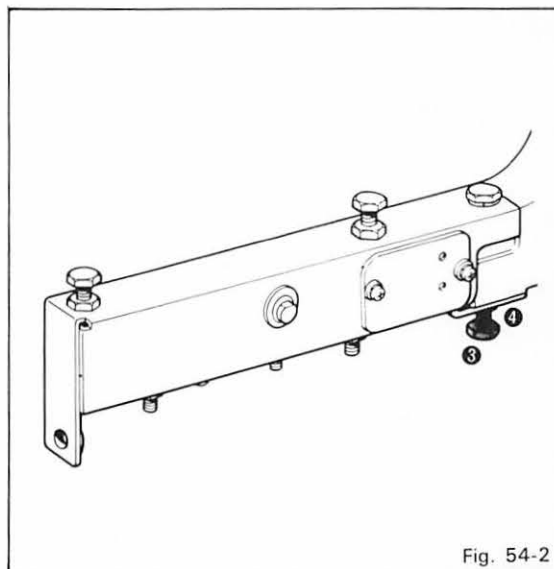

Fig. 54-2
Fasten bolt ❹, the heavier the weight; and loosen it, the lighter. (Fig. 54-2)